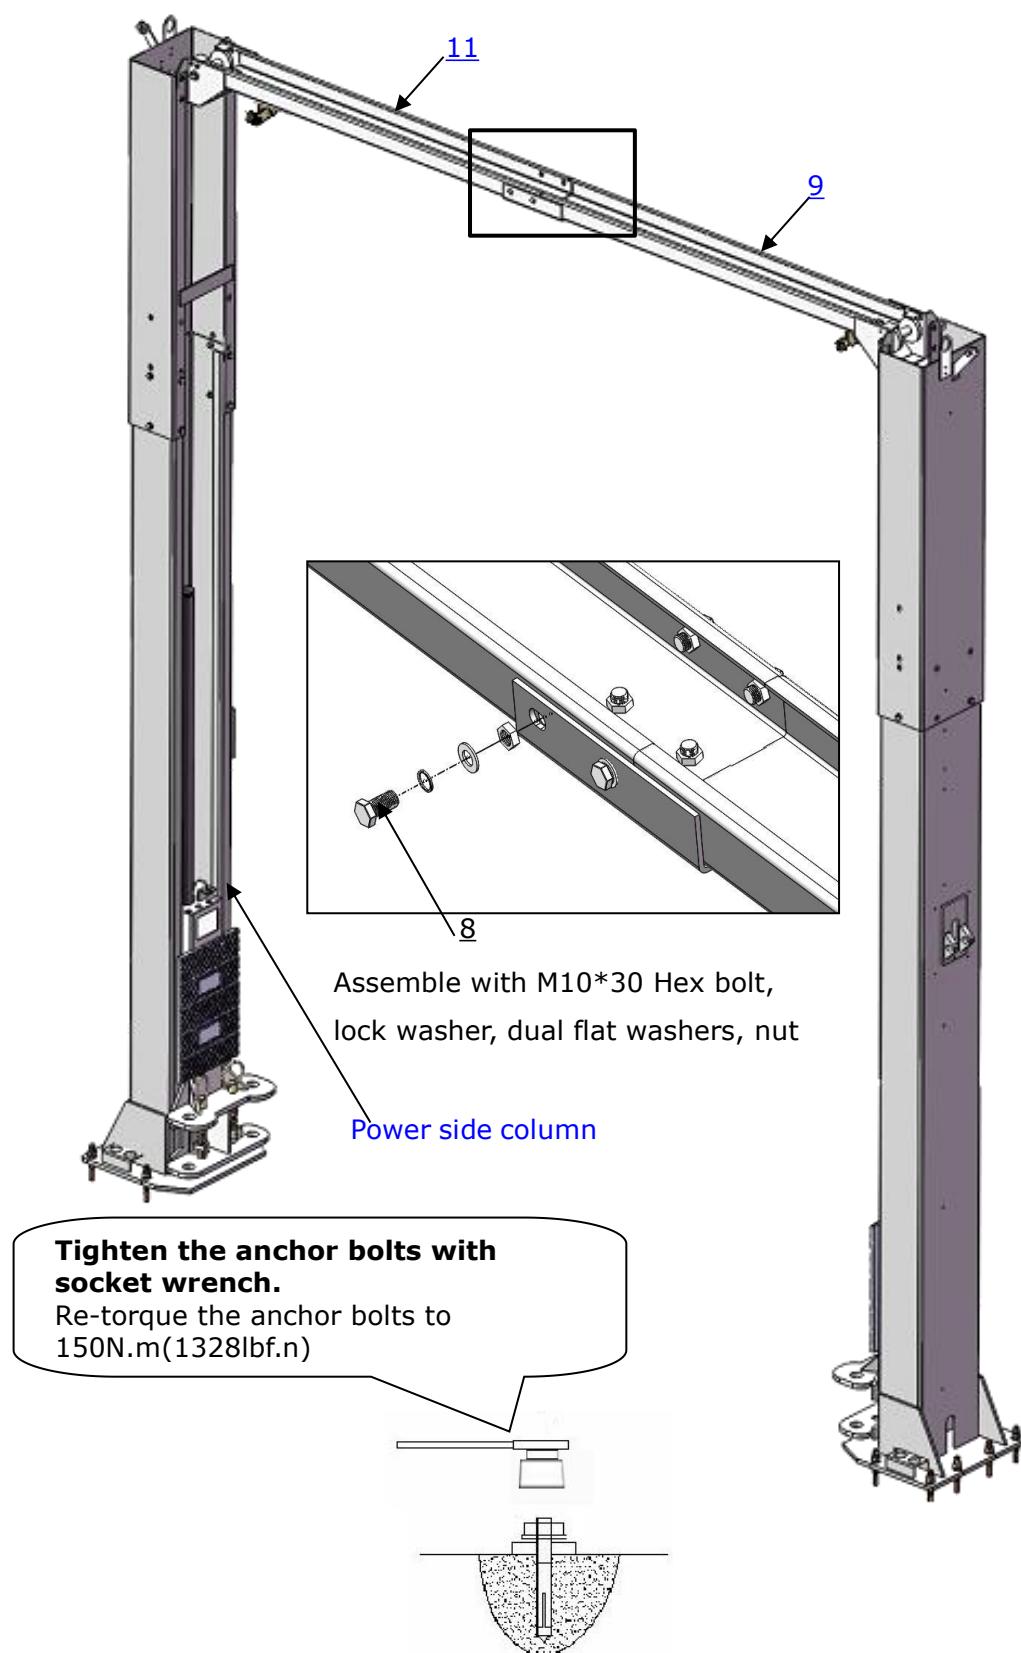

Fig. 21
2. After install the other top beam on off side outer column, bolt both top beams and tighten all the bolts. Finally tighten the anchor bolts. (See Fig. 21)